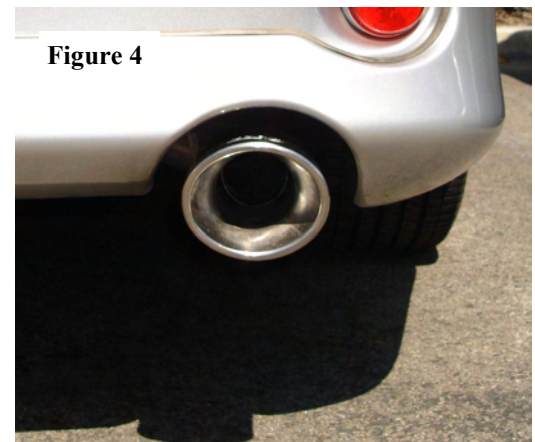

Figure 4
3. Check your exhaust for proper clearance under the vehicle and also for tip alignment. (See Figure 4)